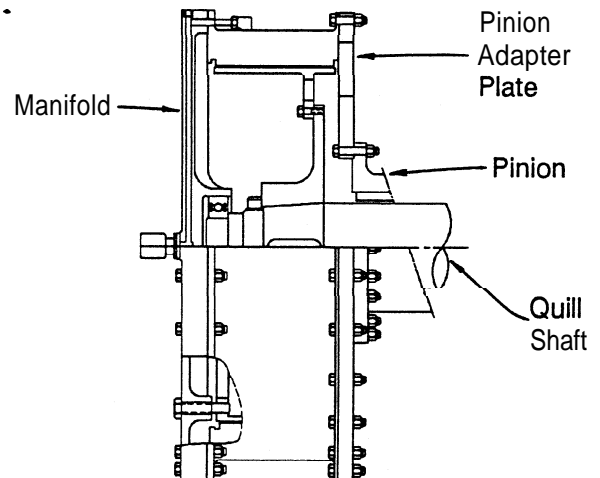

Fig. 6
2.1.4 Figure 6 illustrates a typical marine main propulsion application. In this arrangement, the element is attached to a pinion adapter plate and the drum and drum hub are attached to a quill shaft. A manifold is attached to the outboard end of the element for bearing support of the quill shaft.